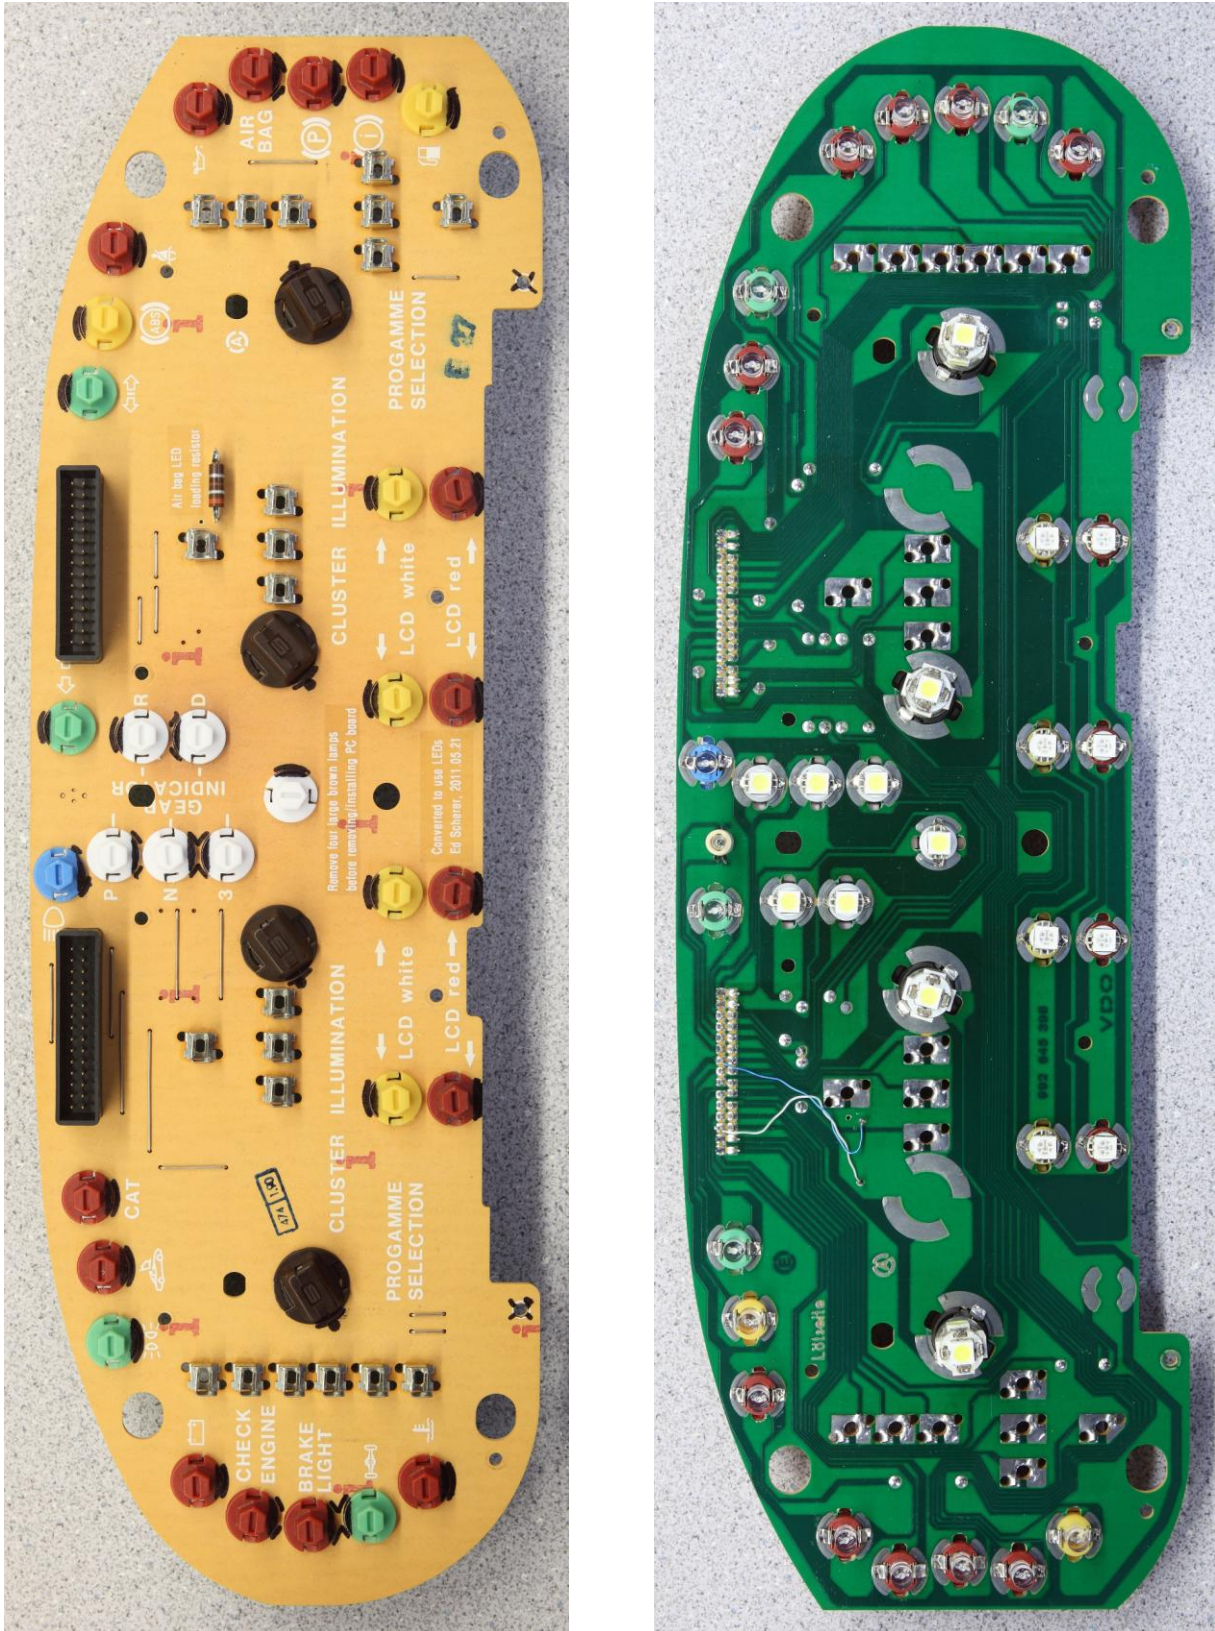

Figure 20: Back and front of PC board after LED replacement; black marks Indicate LED cathode (low/ground) side
Figure 20 shows the polarities of the holes for each of the bulb positions (holes for the twist-lock bulbs) on the PC board.
Insert each bulb through the hole such that when you twist 90°, the polarities will be correct, i.e., that your black mark on the LED will match up with the black marks on the PC board as shown in Figure 20. You may find that a socket screwdriver is the best tool: it can be turned and jiggled gently to work the bulb through the hole and then twist 90° to seat it.
At some point, you should mark the polarities of each bulb position on the PC board as shown in Figure 20.
- you observe the correct polarity as you have marked on each bulb and as shown in Figure 20;
In Figure 20, you'll note some additional labels and markings (beyond the polarity markings at each bulb position, already recommended in an earlier section of this document) that have been added to the PC board: